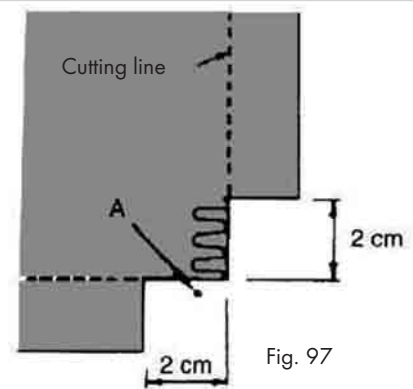
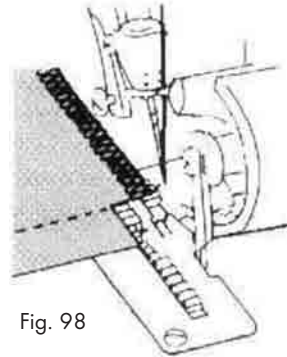

Fig. 97
Fig. 98
1. Cut away, before and after the corner, about 2 cm to the seam line (Fig. 97).
2. Sew a stitch further than to the marking "A" on the drawing and then stop (Fig. 97).
3. Lift the needle and sewing foot ④.
4. Pull the fabric to the rear, such that the yarn being held by the finger of the stitch plate ⑬ is released. (For better recognition, on the drawing opposite the sewing foot ④ is not shown - Figure 98).